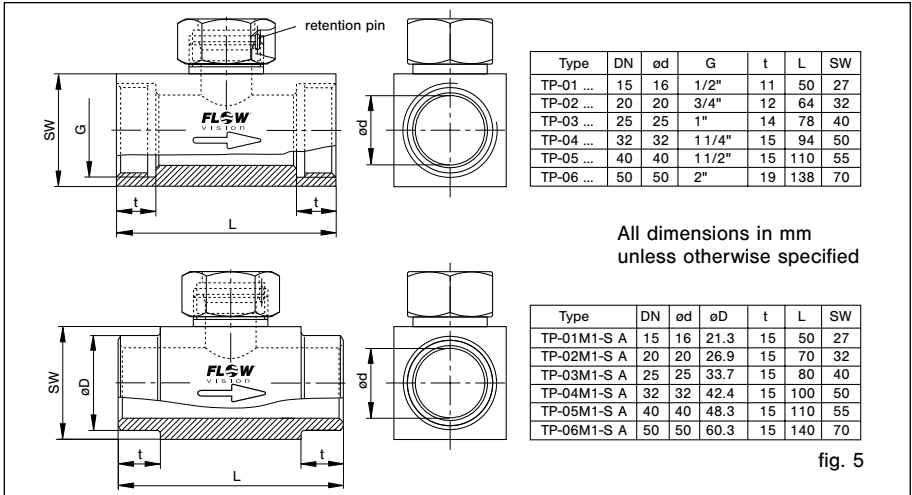

fig. 5
- Installation:** sensor adapter TP.. (see fig. 5)